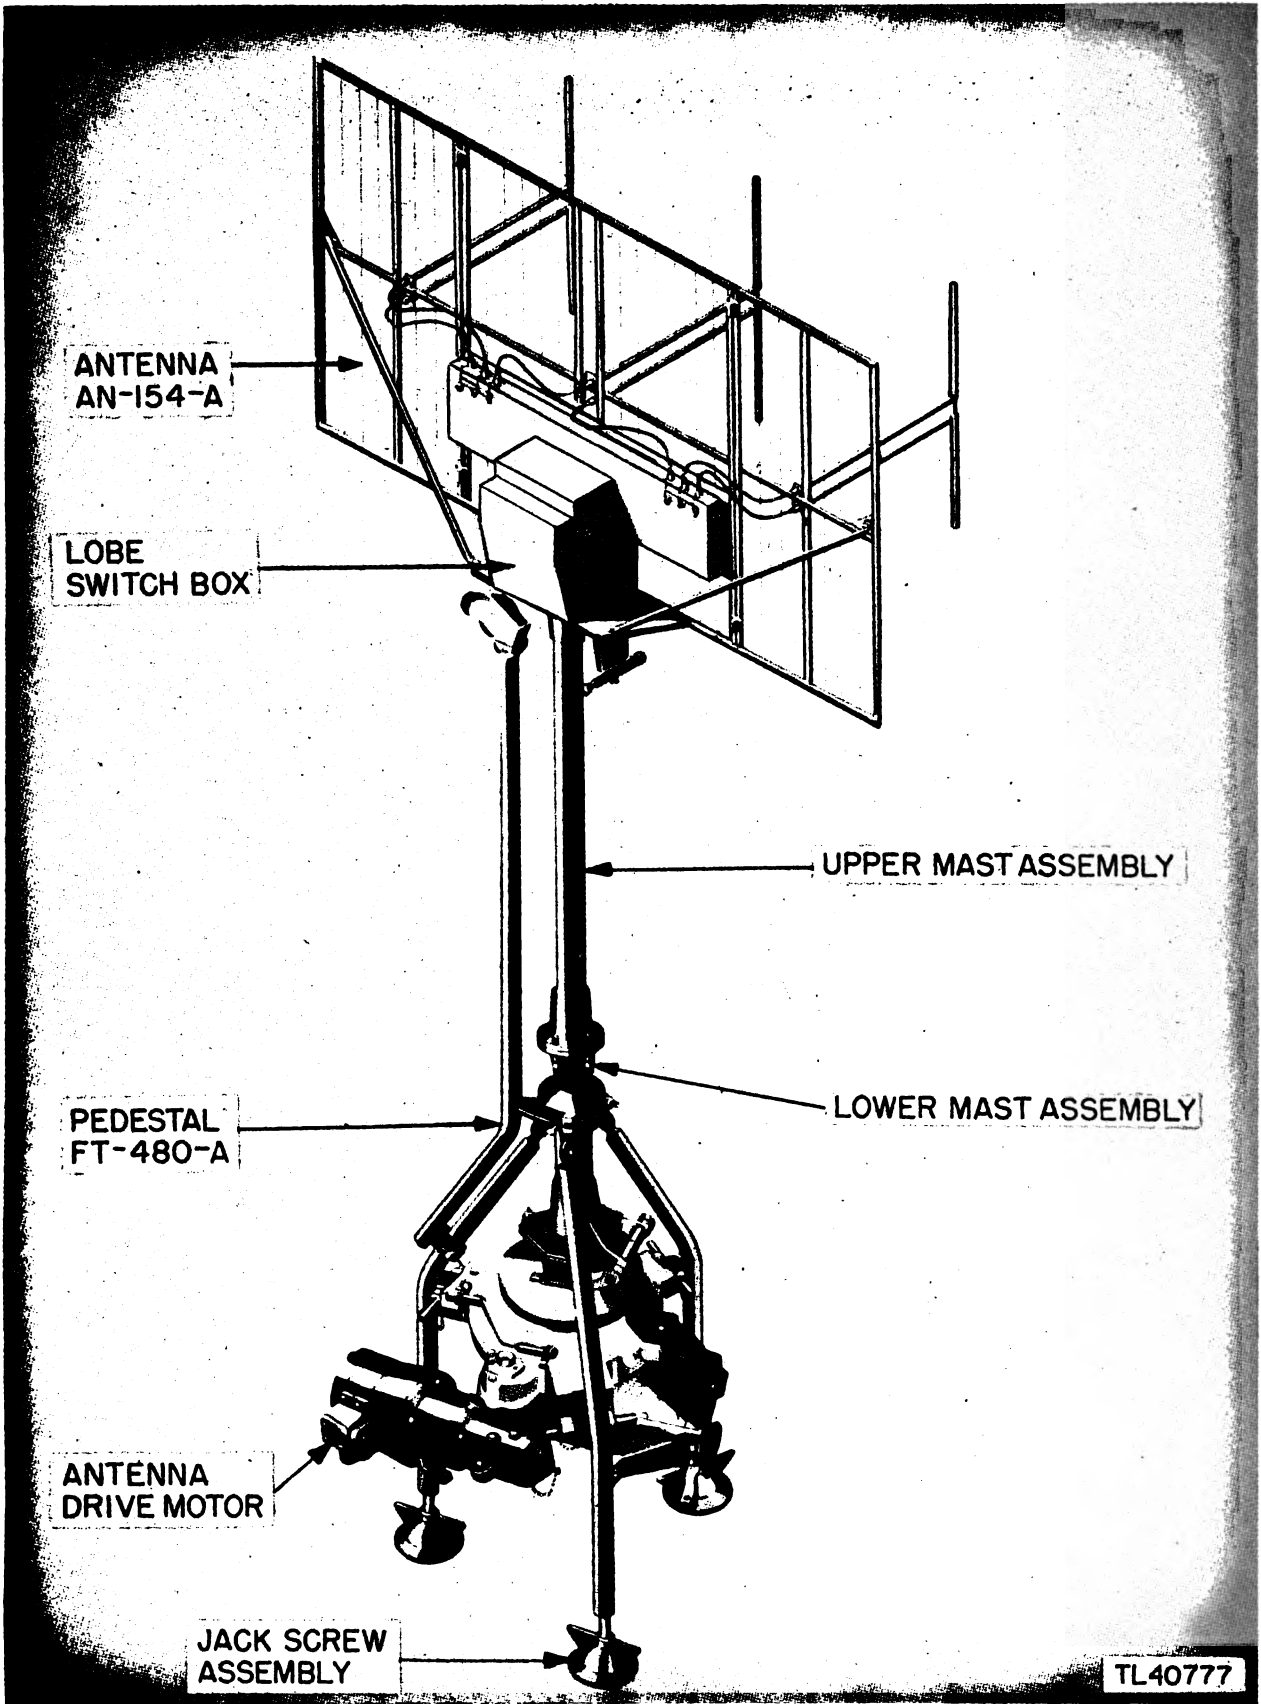

Figure 44. Antenna AN-154-A and Pedestal FA-480-A.
a. LOCATION (fig. 44).
(1) Feel the drive motor for excessive temperature. Make allowance for the air temperature.
(2) Check the entire frame assembly for chipped paint, chipped plating, and rust. Paint the unplated spots.
(3) Check the jack screw assembly (fig. 44) for secure mounting and corrosion on the screw threads.
(4) Clean the azimuth indicator ring.
(5) Lubricate the pedestal as follows (par. 55):